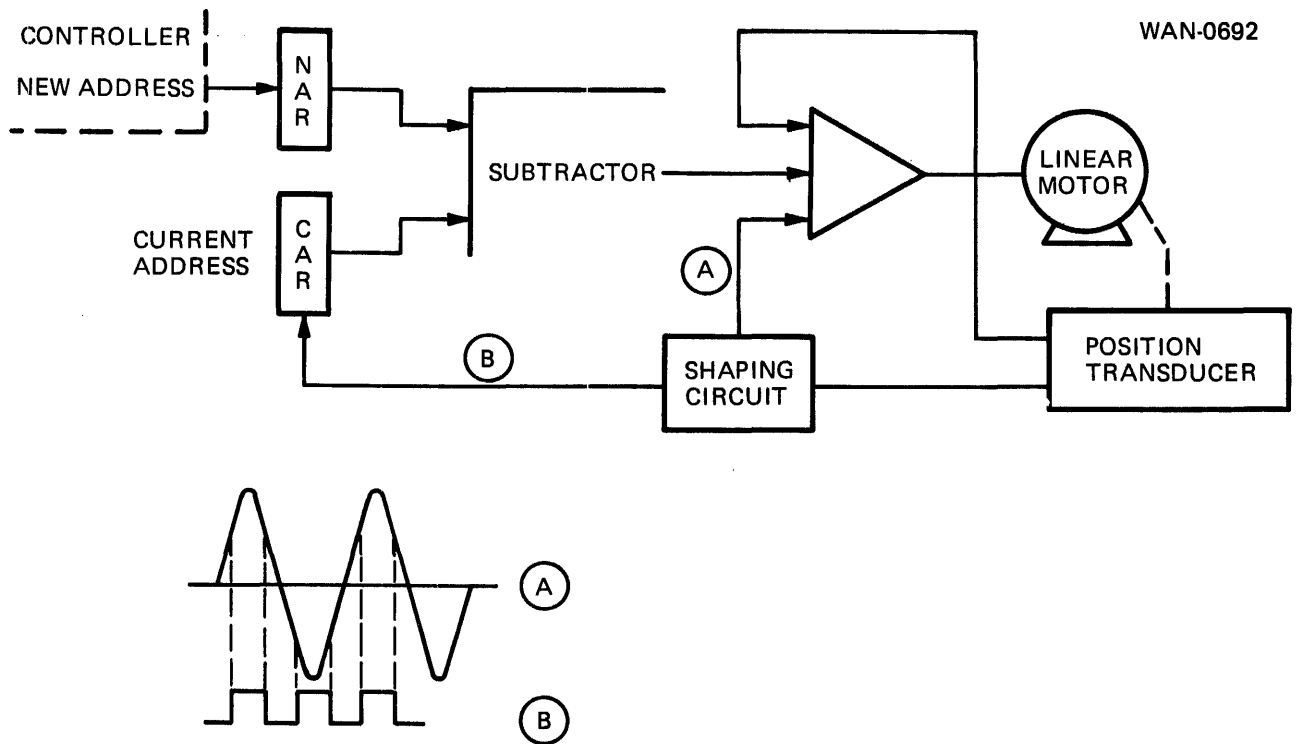

Figure 4-8. Functional Block Diagram – Head Positioning System
The Controller may now initiate a Seek (SK) Command followed by the cylinder address to which the carriage is to be moved. This information is routed to the Servo Logic board, where the cylinder (track) address is strobed into the New Address Register. This binary number then is compared to the value stored in the Current Address Register. This register consists of up/down binary counters containing the binary value representing the present positioner carriage location. These two values are compared and a difference value is obtained which represents the difference between these two binary numbers. This difference value is applied to a D-A converter to provide an analog drive signal which is sent to the Servo Amplifier Board. A simplified block diagram of the head positioning system is shown in Figure 4-8.